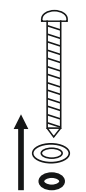

Figure 6
Step 4. WARNING!! To preserve the IP 65 rating, fit the screws with the metallic washer and plastic ring which are included. Next use the screw to fasten the unit to the surface (Figure 6).